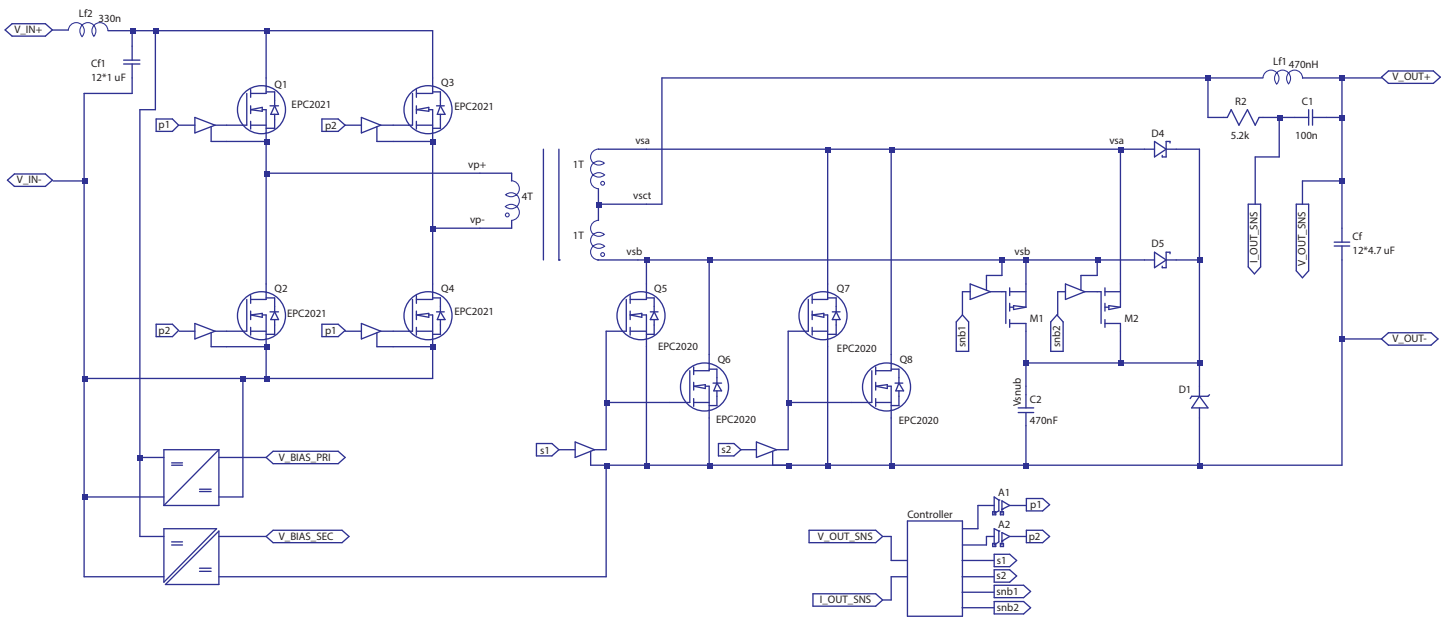

Figure 1: Block Diagram of EPC9115 Demonstration Board
A complete block diagram of the circuit is given in Figure 1. The converter uses a full-bridge (FB) primary power stage, a 4:1 transformer, and a center-tapped (CT) output stage with active reset snubbers. Control is provided by a Microchip dsPIC[®] controller, and basic voltage mode control is implemented. For more information on the EPC2020 and EPC2021 eGaN FETs, as well as the gate drivers and controller, please refer to the datasheets available from EPC at www.epc-co.com, www.ti.com, and www.microchip.com. These datasheets, should be read in conjunction with this quick start guide.